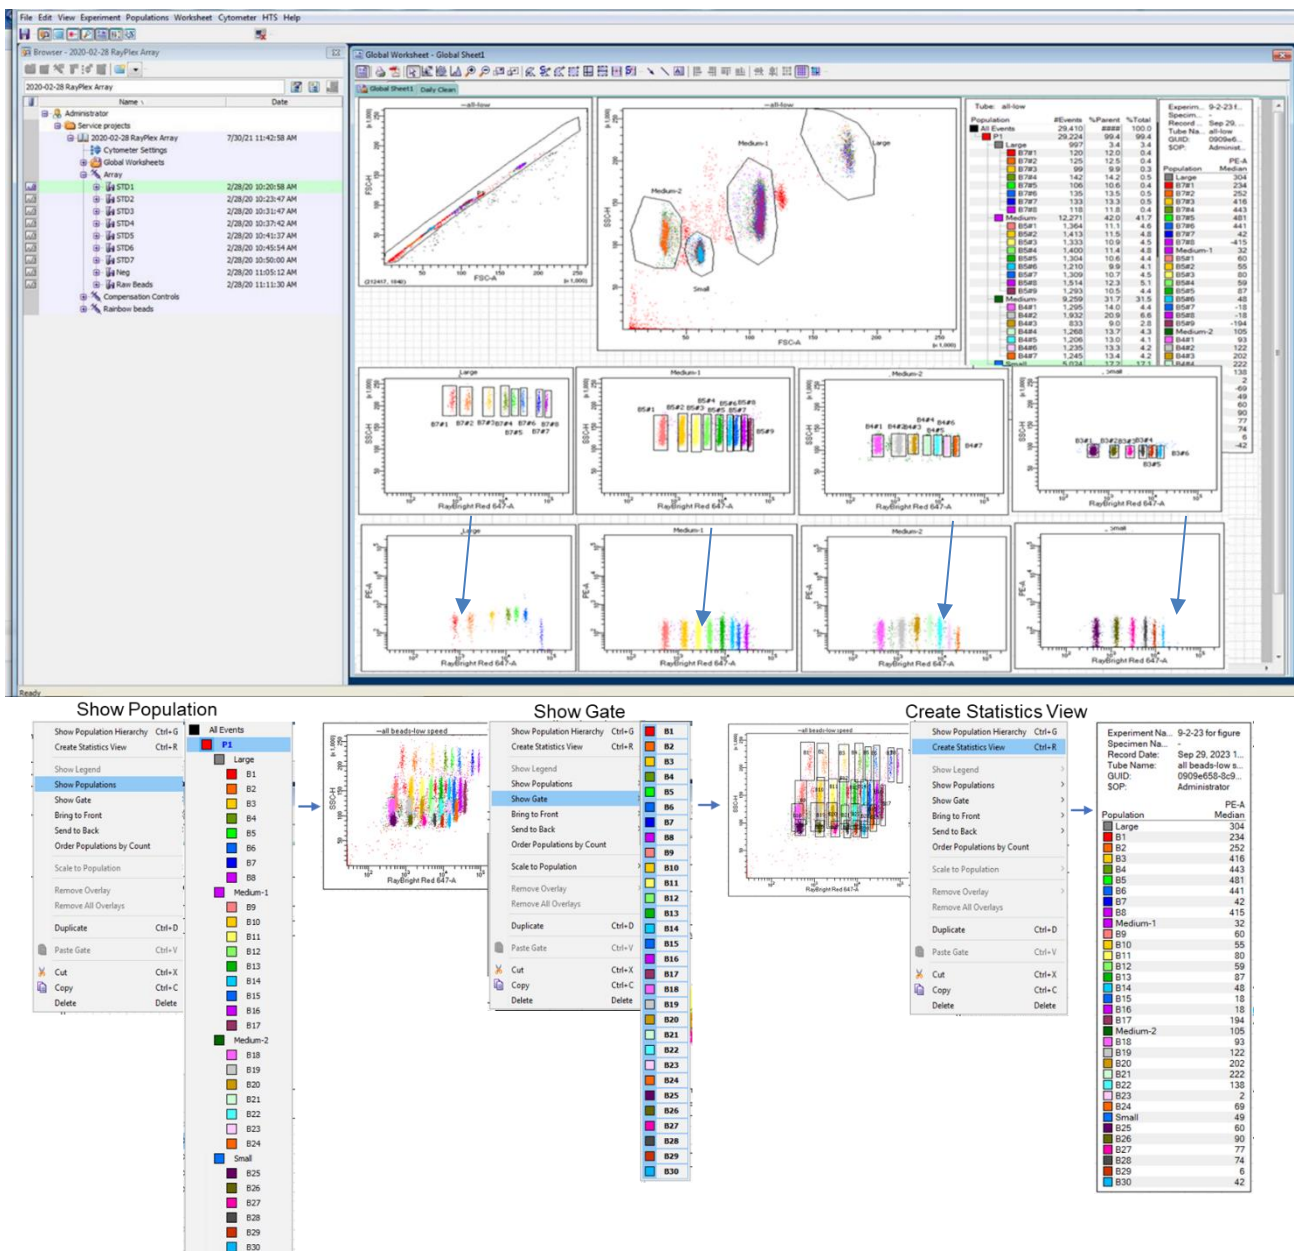

Figure 4. Screenshot of Creating Statistics View from the dot plot of gated beads populations. This is representative data only.
Batch analysis allows exporting PE MFI data of each bead population directly from FACS Diva. Before batch analysis, it's important to create statistics view from the dot plot of gated beads populations and choose "PE-A Median" to be shown (Figure 4). Batch analysis can be done in either manual tube mode or HTS mode. Both methods for batch analysis are described below (Figure 5 and 6).
1. Create a dot plot by SSC-A (linear) and APC-A (log) to show all beads populations and make a gate for each population (see figure 4, “Gated Dot Plot”). Right click on the dot plot to “Create Statistics View”, then edit the statistics view so that “PE-A Median” of gated beads populations are shown (figure 4, “Statistics View of Gated Plot”).